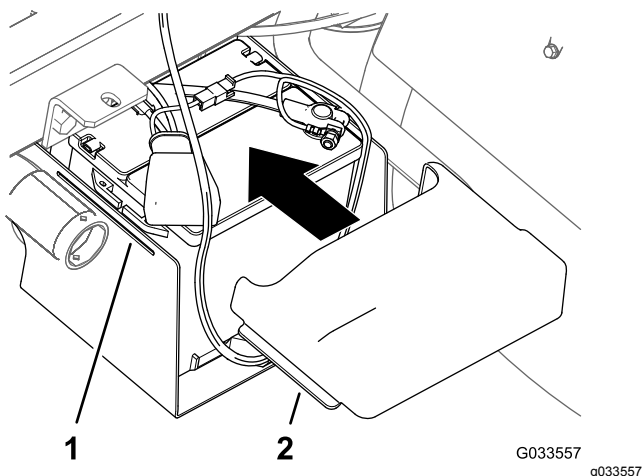

Figure 33
10. Squeeze the sides of the battery cover, align the tabs of the cover with the slots in the battery base, and release the battery cover (Figure 33).